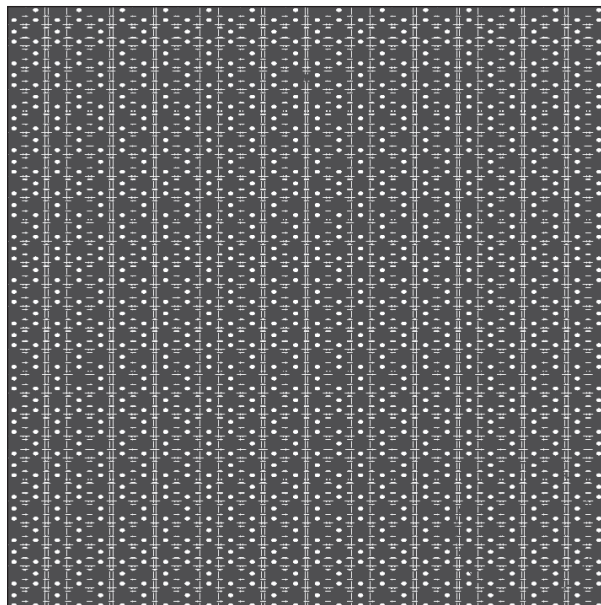
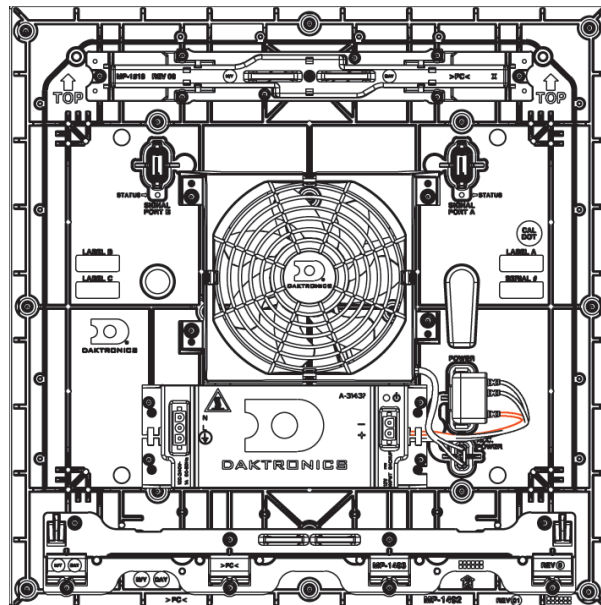

Figure 53: RTX-11X1 Module Front
Figure 54: RTX-11X1 Module Rear
**Figure 40** illustrates a typical power supply, also referred to as a power module. The power supply is mounted directly to the module as shown in **Figure 54** and **Figure 58**. The power harnesses connected to the unit vary depending on type and overall display application. The power LED (DS1) illuminates when the unit is receiving power.
Figure 53 and Figure 54 show front and rear views of an RTX-11X1 module.